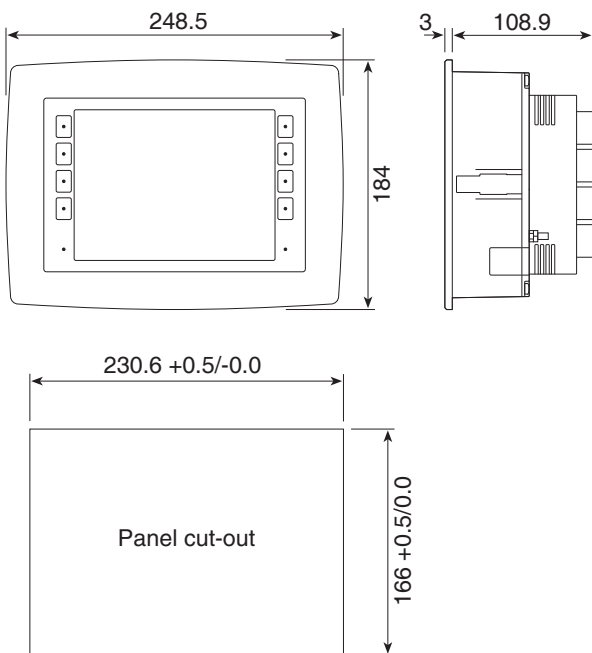

Fig 9 Pageant Operator Panel dimensions including plug-in modules and panel cut-out.
Fig 9 shows the overall dimensions including the plug-in modules and the recommended panel cut-out dimensions.
1. Cut the aperture specified in Fig 9 in the instrument panel or enclosure and ensure that all edges are de-burred.